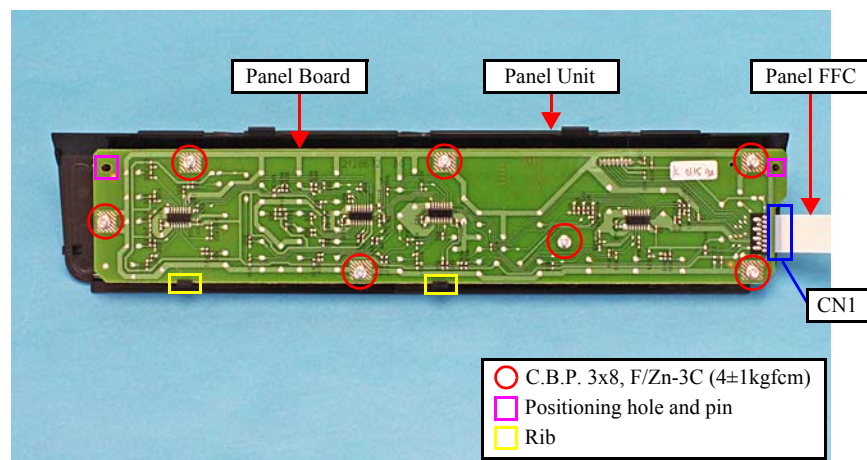

Figure 7-17. Removing the Panel Unit
- When installing the Panel Board, secure it within the ribs (x2) on the Panel Unit as shown in Figure. 7-17.
- When installing the Panel Board, make sure to match the positioning holes (x2) with their positioning pins of the Panel Cover as shown in Figure. 7-17.